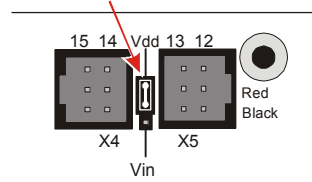

Figure 4-5
Figure 4-5 shows the servo header on the Board of Education Rev C. This is where you will plug in your servo. This board features a jumper that you can use to connect the servo's power supply to either Vin or Vdd. The jumper is the removable black rectangular piece right between the two servo headers.
- √ Set the jumper to Vdd as shown in Figure 4-5. This involves lifting the rectangular jumper up off of the pins it is currently on, and replacing it on the two pins closest to the Vdd label.